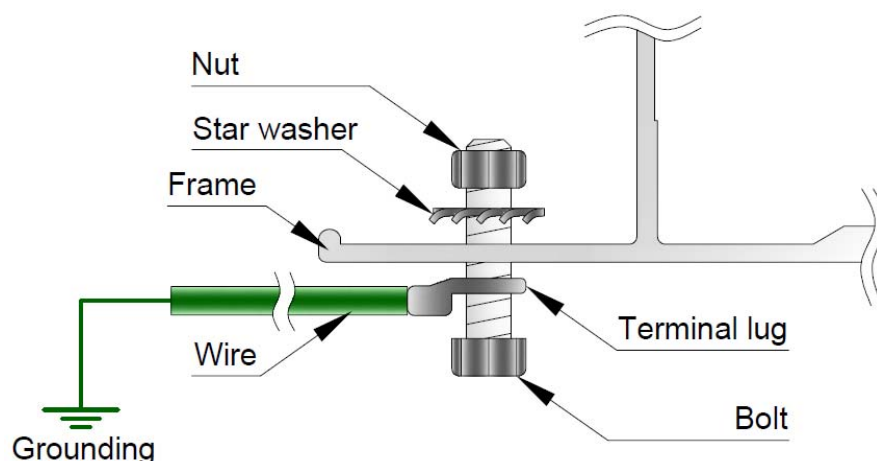

Fig. 11: Grounding connection of the PV module [IEC only]
- **[IEC only]** Grounding cables must be bolted or screwed with star washers (Fig.11).